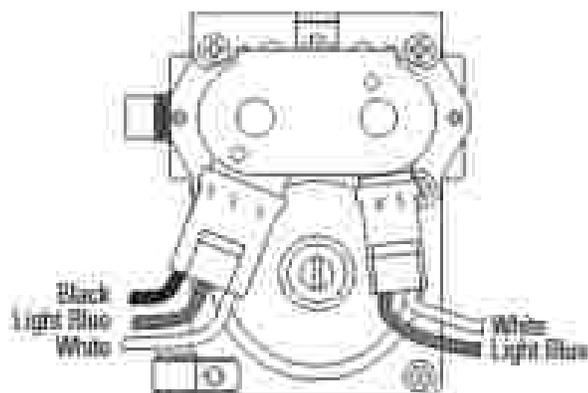

Figure 1 - Measuring gas valve resistance.
3. Using an ohmmeter, check the continuity across the thermal cut-off. See figures 1 and 2, page 3-14, for location.
3. Use an ohmmeter to determine if a gas valve coil has malfunctioned. Remove harness plugs. Measure resistance across the terminals (see figure 1). Readings should match those shown in the following chart. If not, replace coils.